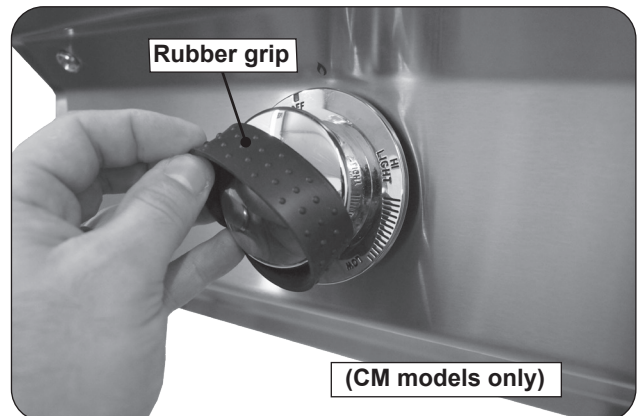

Fig. 30-3 Remove rubber grips (if applicable)
2. For CM models, remove the rubber grip from the control knob (see Fig. 30-3).